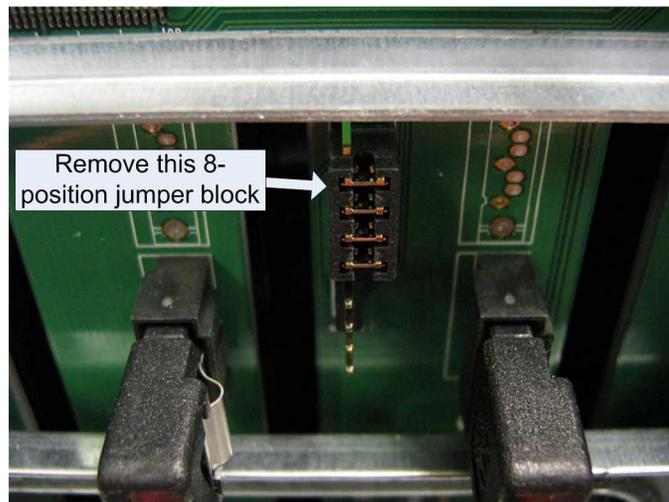
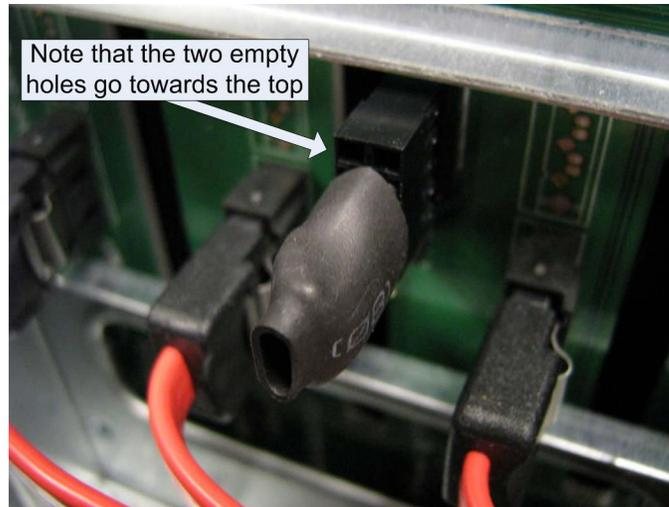

**Figure 4: Identifying the four 10-position headers**
**Figure 5: A bare chassis backplane showing the four 10-position headers**
Step 6) Located on the backplane are four 10-position headers labeled NA1315, NA0912, NA0508 and NA0104. The labels themselves are extremely small and difficult to read. Please see figure 4 to identify these headers. Note that the two right-most headers are made difficult to see because of the placement of four (4) four-position Molex power connectors. (In order to better orient you to the position of these jumpers, please see the bare backplane and identified headers shown in figure 5)
Step 4) Identify the four 10-position headers as shown in figures 4 & 5. The two right-most headers are blocked by the power connectors. Remove the two (2) Molex power connectors labeled CN4 and CN7 to gain easier access to the two (2) 10-position jumpers found below them. Please see figure 8 for details.